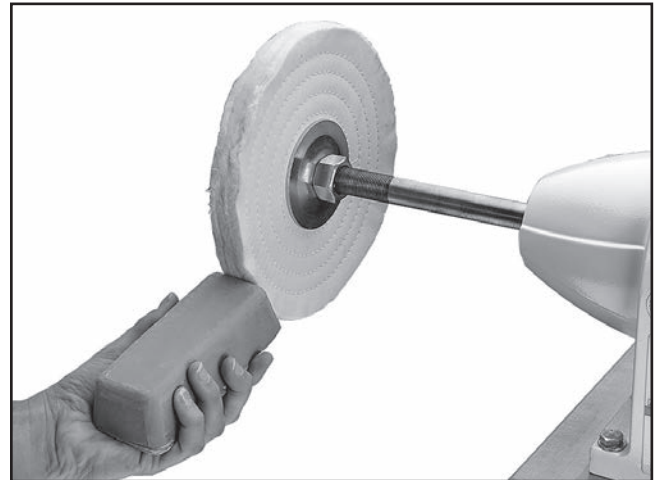

Figure 9. Applying buffing compound to wheel.
5. Apply buffing compound to rotating face of wheel, as shown in **Figures 9–10**. Only hold compound to wheel for 2–5 seconds. The buffer is now ready for buffing/polishing.